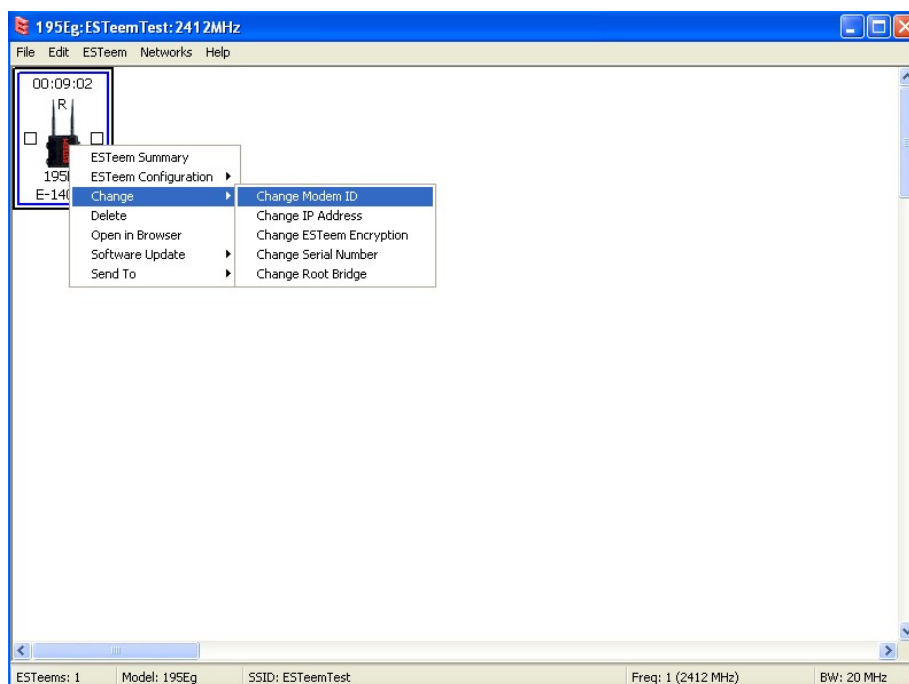

Figure 9: Change Modem ID
3. To change the name of the ESTEem 195Ea from the WLAN MAC address to "Main Office" (or any other location name) to match the example configuration, Right-Mouse click on the ESTEem icon and select Change>Change Modem ID (Figure 9). Enter "Main Office" in the pop-up window and select OK.